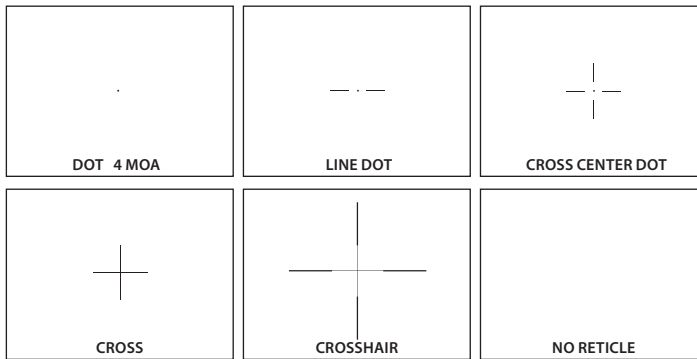

FIGURE 3-30. RETICLE PATTERNS
Push and hold button (2) or button (4) to select from a choice of reticle patterns: "Dot 4 MOA", "Line Dot", "Cross Center Dot", "Cross", "Crosshair", or "No Reticle" (Figure 3-30).